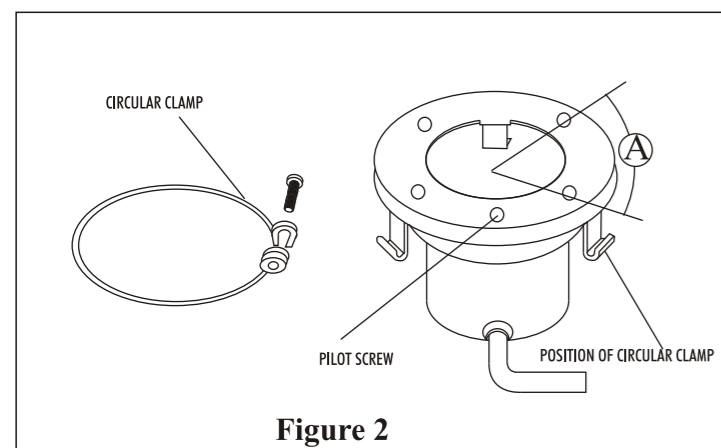

Figure 2
- a. With the bent ends of the circular unitension clamp pointing down spread the clamp and place it in the "U" recesses of the locking levers. Ensure that the bent ends of the clamp are located between the pair of locking levers as shown in Figure 2, location A Check to see that the clamp is properly engaged with all of the levers; see Figure 2.